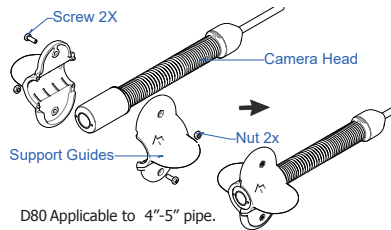

Figure 10. Install 80 Support Guides
b. Install 80 support guides. (Figure 10.)